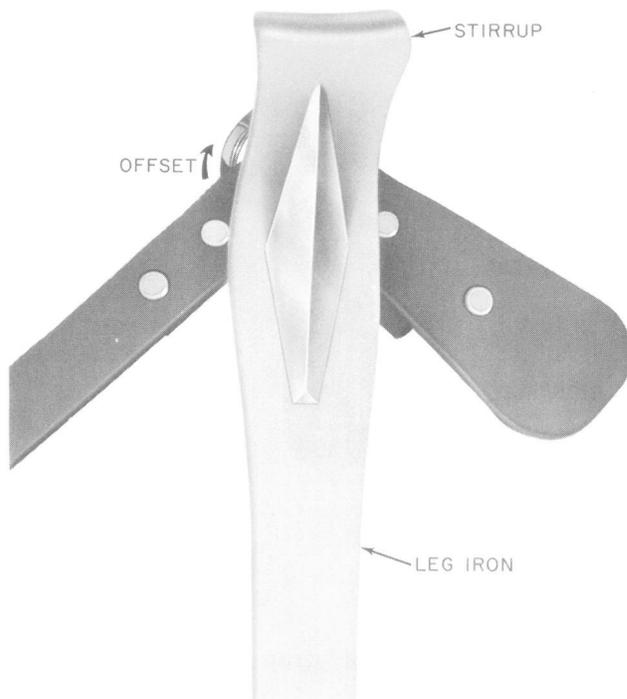

Fig. 2—Stirrup Offset "Right"
2.05 F climbers have offset stirrups, therefore, they are made for the left or right foot and are marked "L" or "R" just below the ring loop at the end of the stirrup. Some older climbers may not have been marked. Climbers can be identified as left or right by holding the climber with the gaff toward you and pointing up and noting the direction the stirrup is offset. If the offset is to the right as shown in Fig. 2, it is a